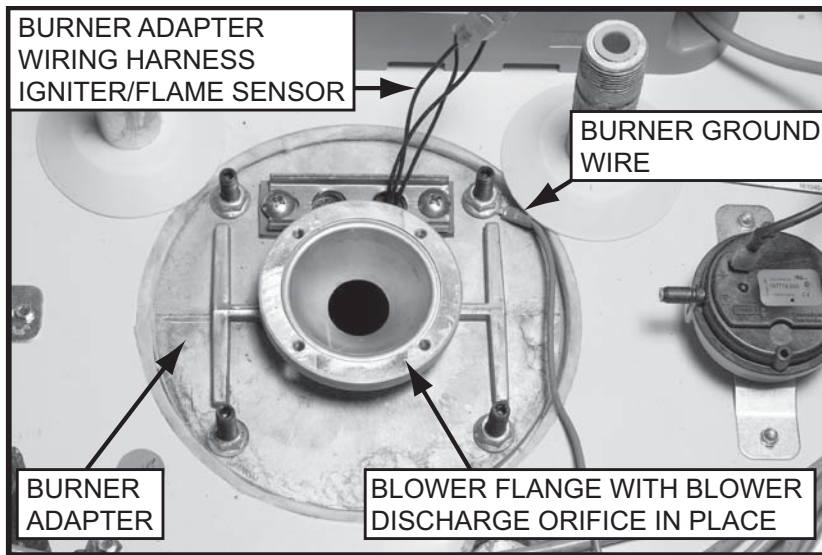

Figure 10
12. Ensure the water heater and the Burner are properly grounded. The water heater Control System requires an adequate earth ground for flame sensing (verification), see Flame Sensing Operation on page 18. Inadequate grounding to the water heater and/or the Burner will cause the **Ignition Failure** fault condition and Control System lock out. See Electrical Requirements on page 6 and Figure 10 on page 13.
15. Ensure the Blower Discharge Orifice is present and seated properly on top of the Burner Adapter, see Figure 10 on page 13.
3. Unplug the Burner Adapter wiring harness; three male/female spade connections for the Igniter and Flame Sensor behind the CCB enclosure, see Figure 10 on page 13.